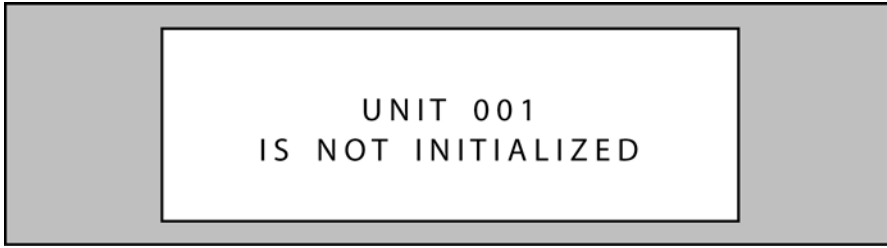
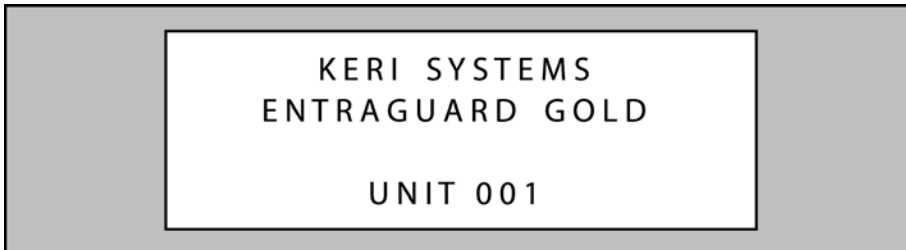

Figure 8: Not Initialized Unit Warning
Figure 9: EntraGuard Silver Default LCD Display
Once the memory has been cleared, the unit is ready to be configured. The LCD will display a warning that the unit has not been initialized (see Figure 8 on page 10). This display will rotate with the EntraGuard Default display (see Figure 9 on page 10) until a Total Update from *Doors* has been performed on the unit. Once an update has been performed, only the default will be displayed.
1. Press 1 to clear the controller's RAM. The LCD will change to show the memory is being cleared (see Figure 7 on page 9). Once the controller's RAM has been cleared, the unit is ready for use. The LCD will rotate between the Initialization Warning and EntraGuard Default screens (see Figure 8 on page 10 and Figure 9 on page 10) until a Total Update from *Doors* has been performed on the unit.